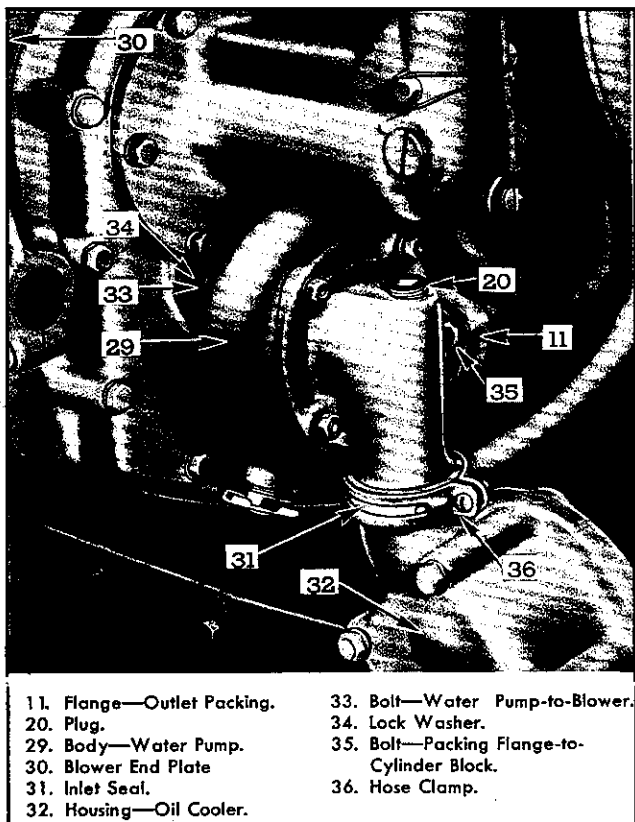

Fig. 5—Water Pump Mounting.
2. Loosen clamp (36) (see Fig. 5 above) and slip inlet seal (31) down on oil cooler neck.
3. Remove two bolts (35) and flange (11) holding pump outlet to cylinder block. Move flange and packing towards pump body.
- Slide water outlet packing and packing flange up against cylinder block and secure with two bolts (35) and lockwashers. (See Fig. 5).